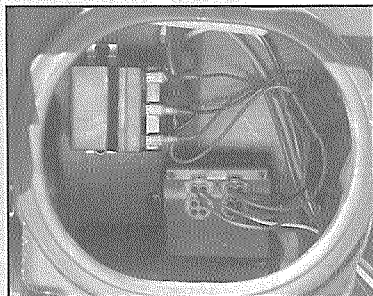

Figure 1
1. Find a location to mount the power distribution module and the solenoid, i.e. under seat or in storage box. See Fig. 1